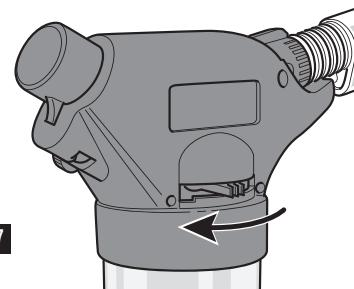

FIG. 7
- b. Turn the Flame Control Slider to the minimum position as shown in Figure 7.